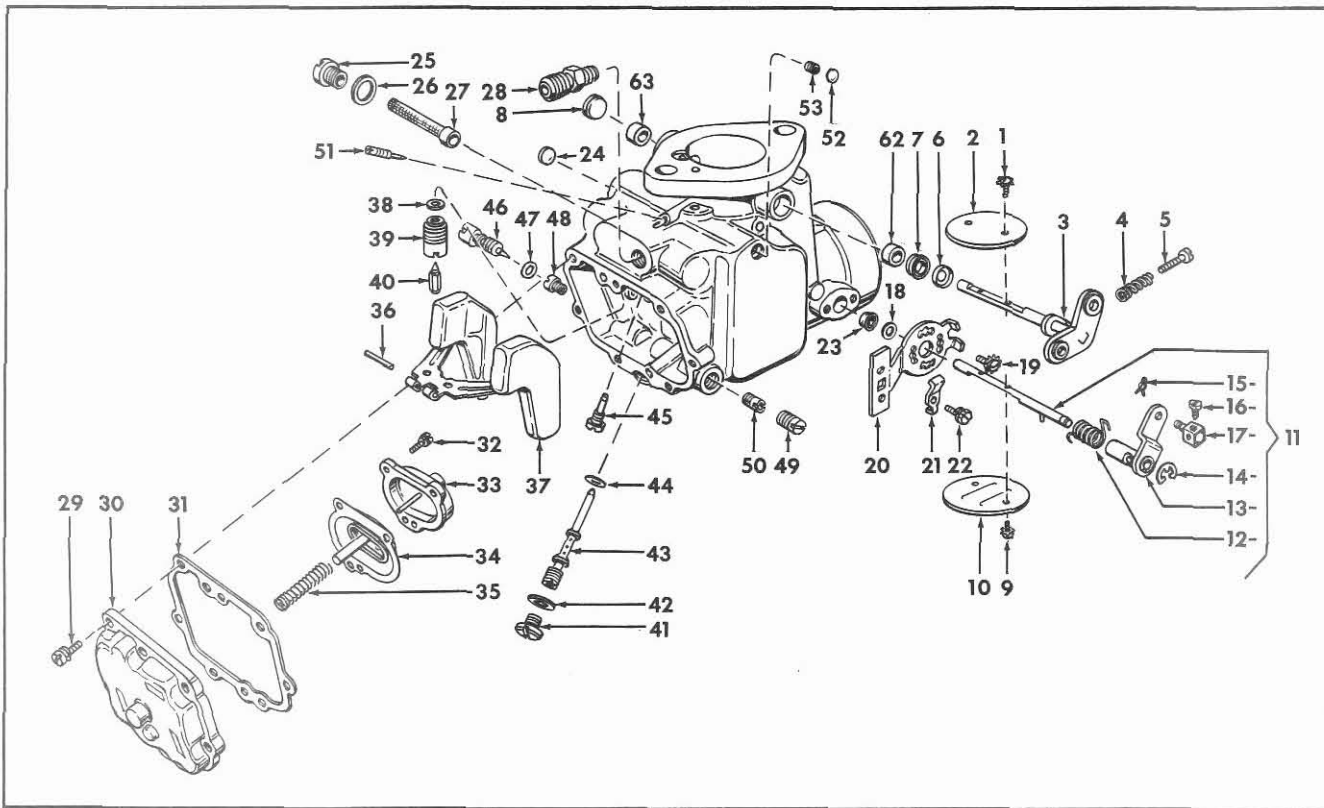

Figure 2-2. Exploded View of Typical USX Carbureter
2. DISASSEMBLY. (See figure 2-2.)
a. Remove throttle valve screws (1), throttle valve (2), throttle shaft (3), packing retainer (6), packing (7) and cup (8).
b. Remove choke valve screws (9), choke valve (10) and shaft assembly (11). Remove snap ring (14), lever (13), spring (12), cotter pin (15) and swivel (17). Remove washer packing retainer (18) and packing (23).
c. Remove choke bracket screws (19), brack-
a. Procedure for checking the pump discharge jet while it is installed in the carburetor. These operations must be performed while the bowl cover (30, figure 2-2) is removed from the carburetor body.